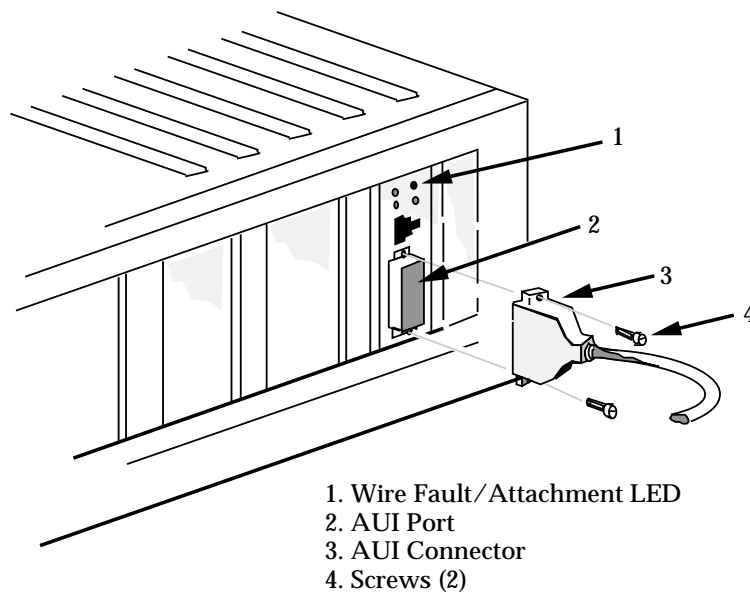

Figure 3-5. Connecting an AUI Cable
Attach the male connector (3, Figure 3-5) on the AUI cable to the adapter's AUI port (2) and tighten the securing screws (4).
- see figure 3-5 3-9